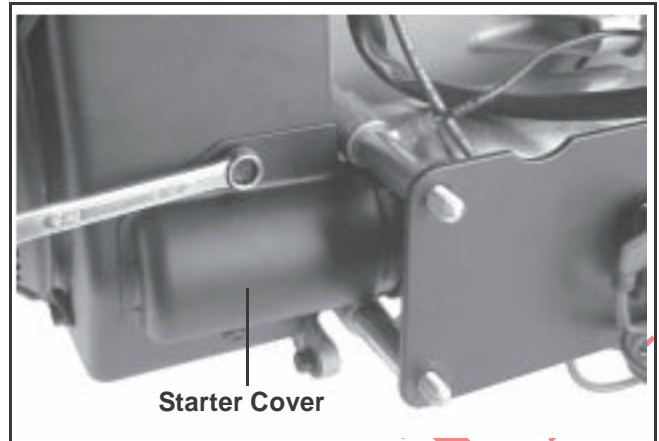

Figure 11-49. Installing Starter Cover.
4. Install the starter cover and secure with the two hex flange screws. See Figure 11-49.